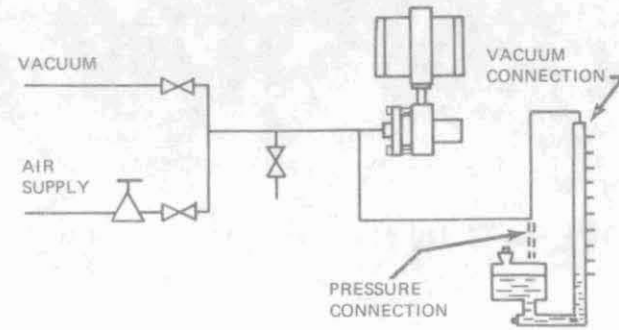

Figure 13
1. Set up calibrating equipment shown in Figure 13 and either Figure 14 or 15.